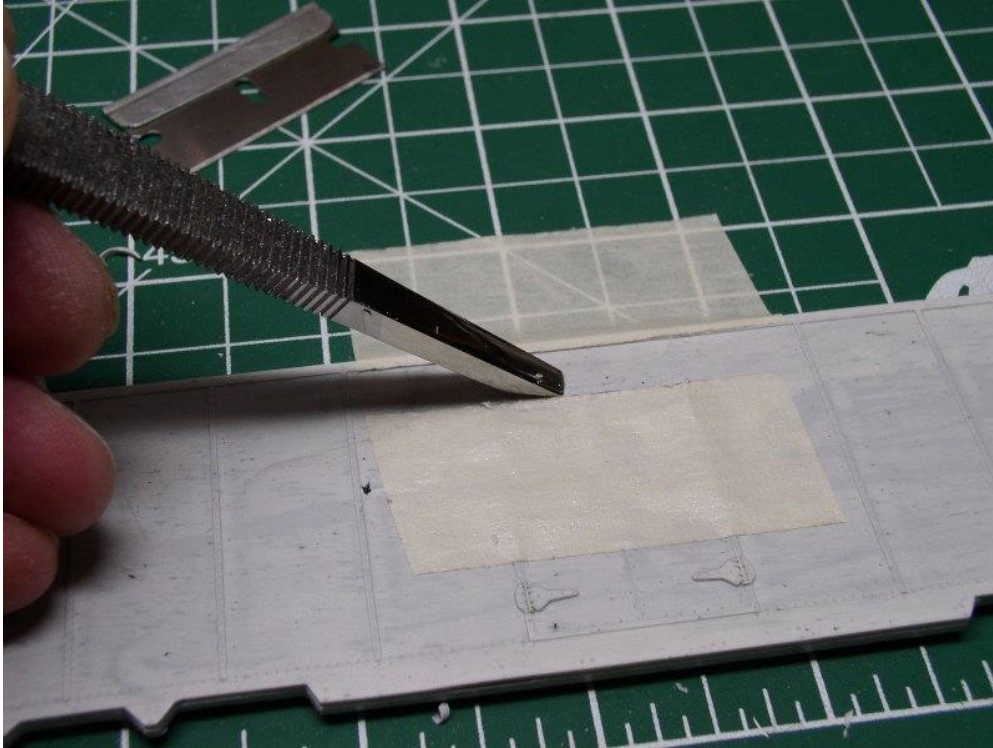

Figure B3
3. Use the XACTO® No. 17 Light Weight Chiseling Blade or Micro Mark 4mm Plastic Modeller's Chisel to carefully remove the details around area above the door including the original drip strip. Slow and easy works well. See Figure B3.